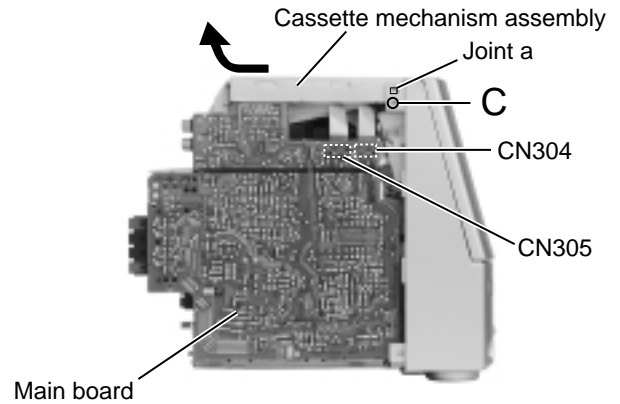

Fig.5
**■ Removing the cassette mechanism assembly (See Fig.5 and 6)**